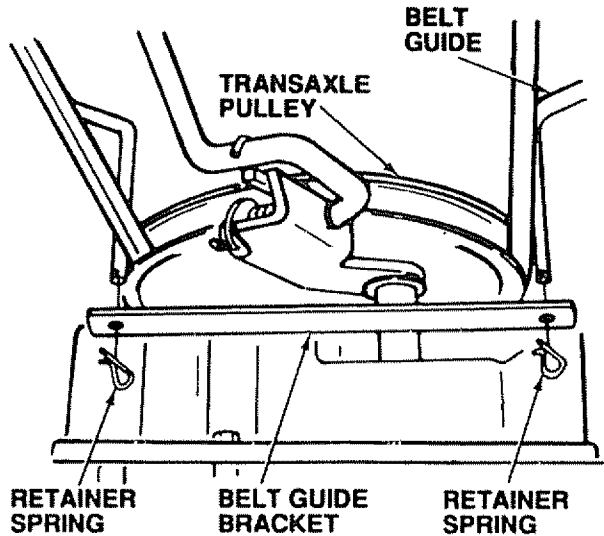

FIGURE 22
- Remove two retainer springs from belt guide bracket below transaxle pulley. Remove bracket (Fig. 22).
- Swing belt guides away from belt, toward rear of tractor (Fig. 22).